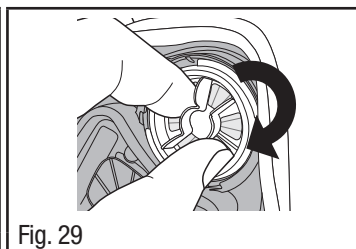

Fig. 29
6. With slight downward force, use the thumb and index finger to rotate the speaking diaphragm 90 degrees clockwise (Fig. 29).